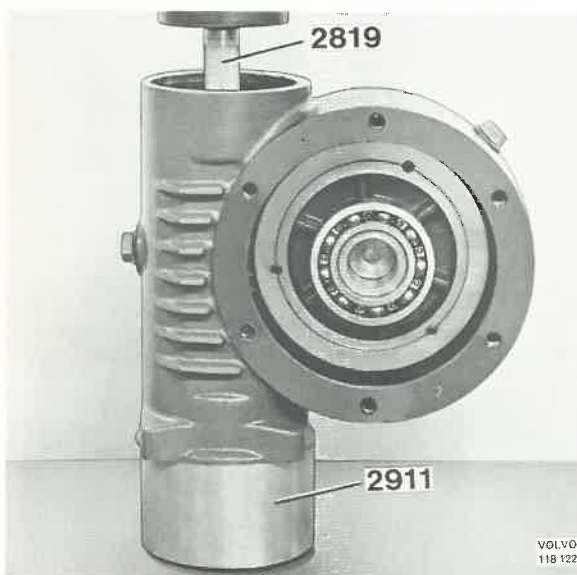

Fig. 92-57. Pressing out the worm
19. Place the gear housing on 2911, see Fig. 92-57, and press out the worm with 2819. Lift off the housing.